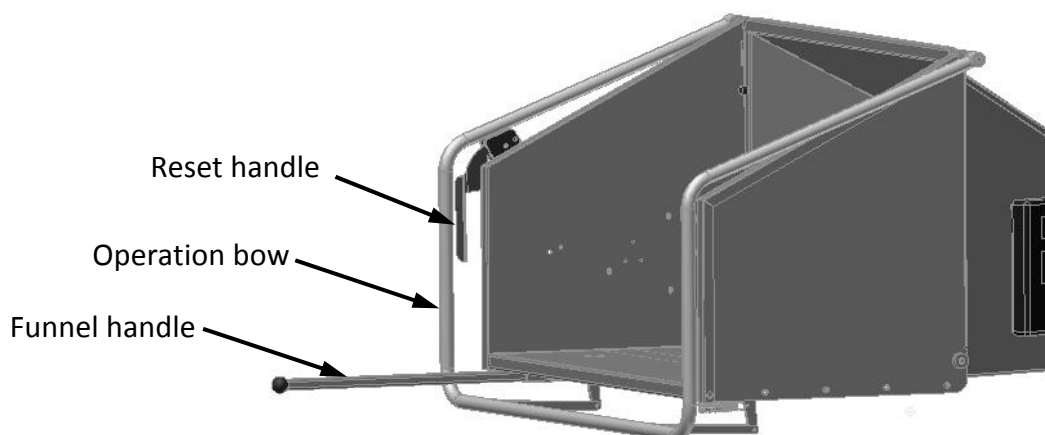

Figure 10
- **AT DANGER: PUT THE OPERATION BOW IN NEUTRAL (See fig. 10)**
The wood chipper is equipped with two hydraulic rollers, a pressure compensated flow valve, a control valve, an operation bow with a reset handle and a funnel handle (see fig. 10).